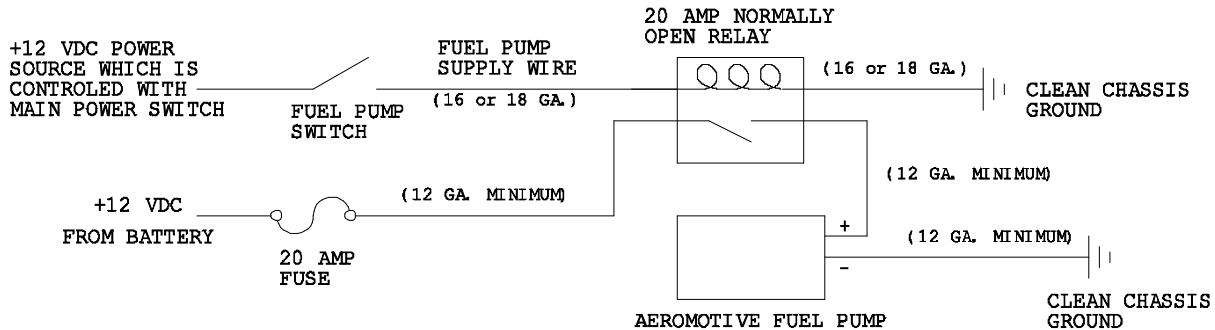

Figure 1-3
44. Prep the new tank by making all the necessary connection (feed, return, vent and electrical) before placing tank in vehicle. In most cases, once the tank is placed in the vehicle these connections will not be accessible. For electrical wiring refer to **Figure 1-3**.